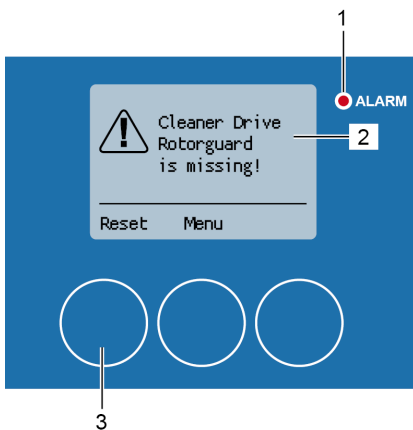

Fig. 190: Clock sensor alarm
The alarm message "Cleaner Drive Rotorguard is missing!" (Fig. 190/2) occurs during the cleaning process if there is a problem with the clock sensor. The red alarm LED (Fig. 190/1) lights up.
2. Reset the alarm message with [Reset] (Fig. 190/3).